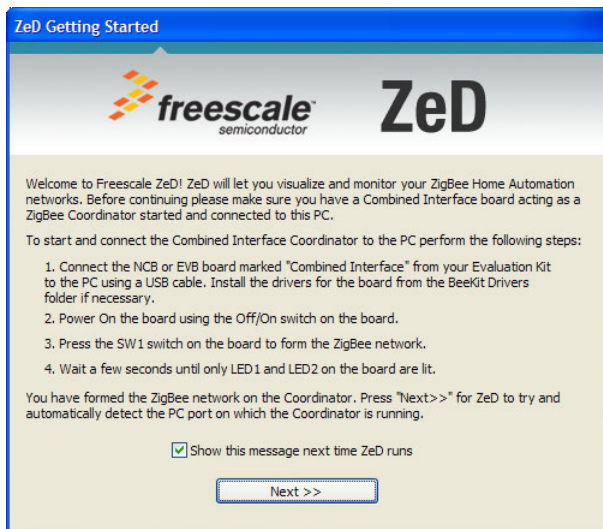

Figure 9. ZeD Getting Started Message
2. If ZeD is started for the first time, it displays a short introduction message on how to connect the DCU board (ZigBee Coordinator) to the PC as shown in Figure 9.